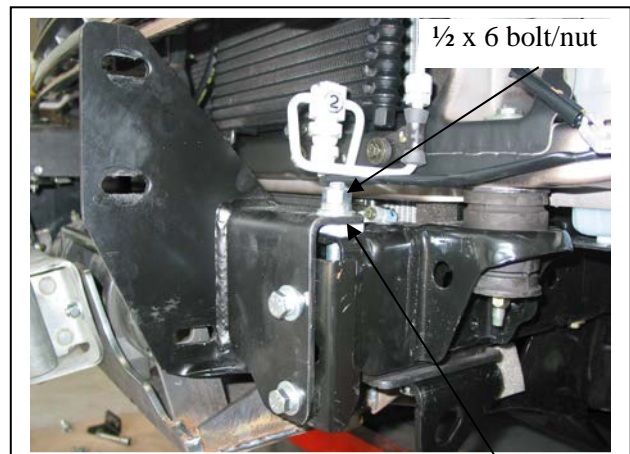

Figure 2 Alloy spacer
8. Insert ½ x 6 bolts (supplied) vertically through mount hole at front of chassis. Place 40mm round spacer (supplied) between mount and top of chassis. Use nuts/washers (supplied). **DO NOT TIGHTEN. See figure 2.** **NOTE:** Ensure all air conditioning lines are clear of nut/bolts on passenger side. Bend slightly to clear if necessary.